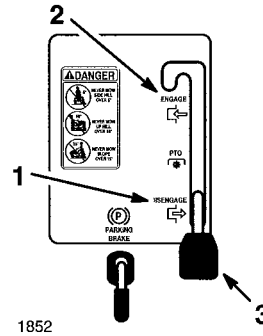

Figure 3
3. Move the blade control (PTO) to “DISENGAGED” (Fig. 3).